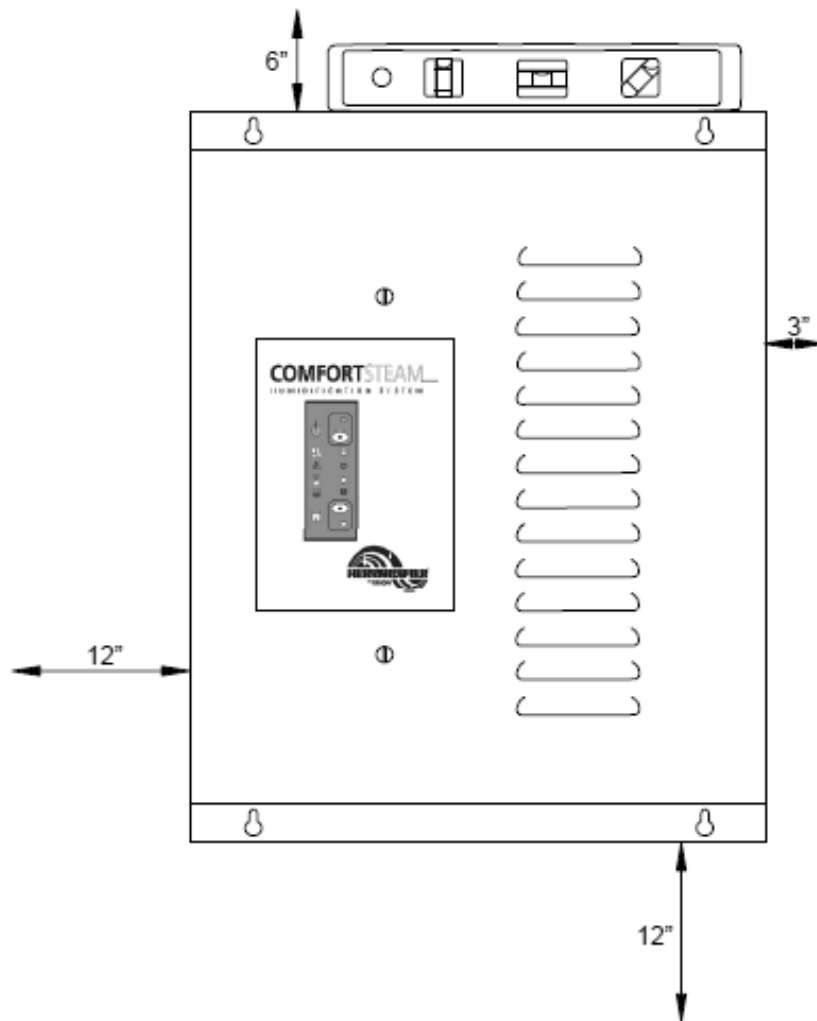

Figure 14
- The humidifier must be installed on a vertical surface. Because of the length of the steam hose supplied, select the location of the unit as close as possible within a maximum of 2 feet of the steam delivery tube/diffuser. Please see Fig. 14 for necessary clearances around the humidifier.